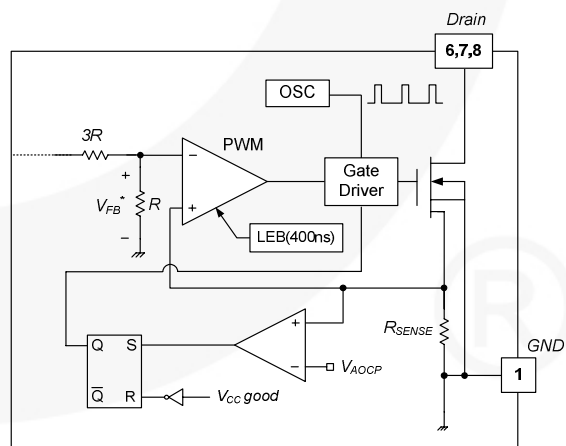

Figure 21. Abnormal Over-Current Protection
4.2 Abnormal Over-Current Protection (AOCP): When the secondary rectifier diodes or the transformer pins are shorted, a steep current with extremely high di/dt can flow through the SenseFET during the minimum turn-on time. Even though the FSGM300N has overload protection, it is not enough to protect the FSGM300N in that abnormal case; since severe current stress is imposed on the SenseFET until OLP is triggered. The FSGM300N internal AOCP circuit is shown in Figure 21. When the gate turn-on signal is applied to the power SenseFET, the AOCP block is enabled and monitors the current through the sensing resistor. The voltage across the resistor is compared with a preset AOCP level. If the sensing resistor voltage is greater than the AOCP level, the set signal is applied to the S-R latch, resulting in the shutdown of the SMPS.